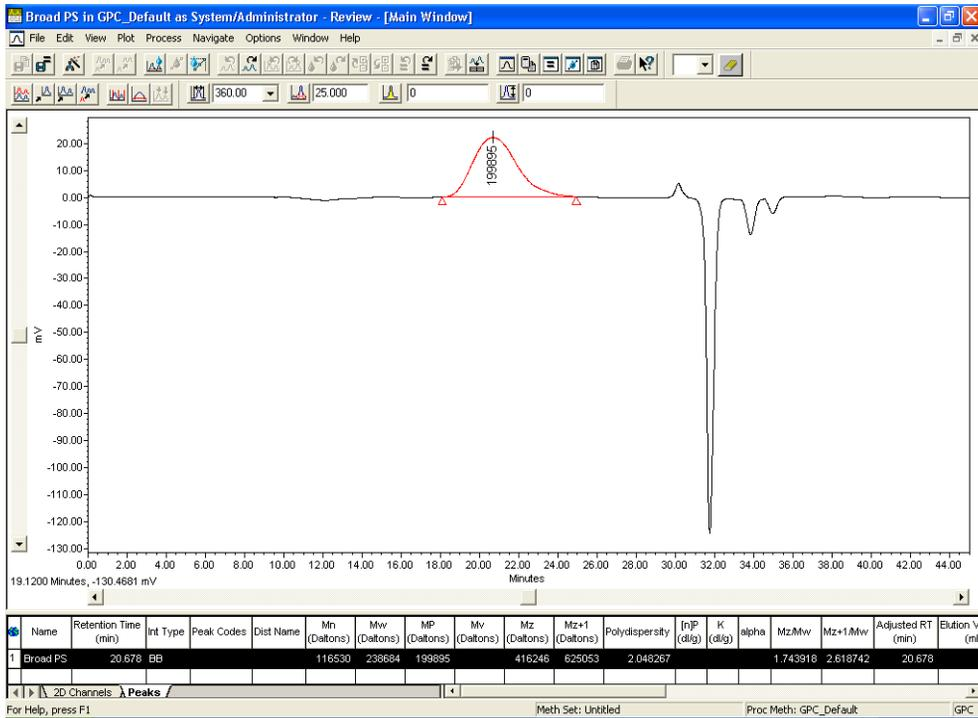

Figure 3-14 Integrated and Quantitated Broad Unknown
- View the integrated and quantitated broad unknown in the chromatogram plot of the Review Main window (Figure 3-14).